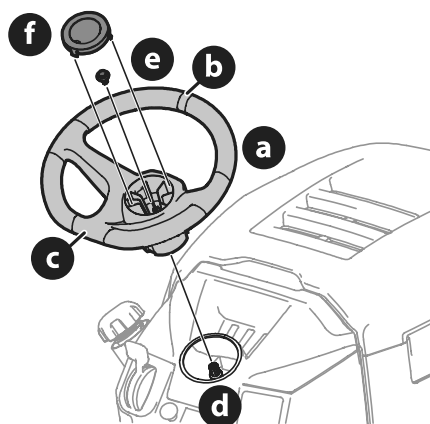

Figure 14
- With the wheels of the tractor pointing straight forward, align the steering wheel (a) by using the center-line (b) on the front of the steering wheel (a) pointing straight ahead and the flat section (c) of the steering wheel (a) facing toward the seat, place the steering wheel (a) over the steering shaft (d) (Figure 14).
- Secure the steering wheel (a) with the hex bolt (e) from under the steering wheel cap (f) and torque to 18-22 ft-lbs (24-30 N-m) (Figure 14).
- Place the steering wheel cap (f) over the center of the steering wheel (a) and push downward until it "clicks" into place (Figure 14).
**NOTE:** The hex bolt (e) securing the steering wheel (a) has thread locker applied to it, so if it is removed, it is recommended that the hex bolt (e) be replaced or thread lock re-applied (Figure 14).